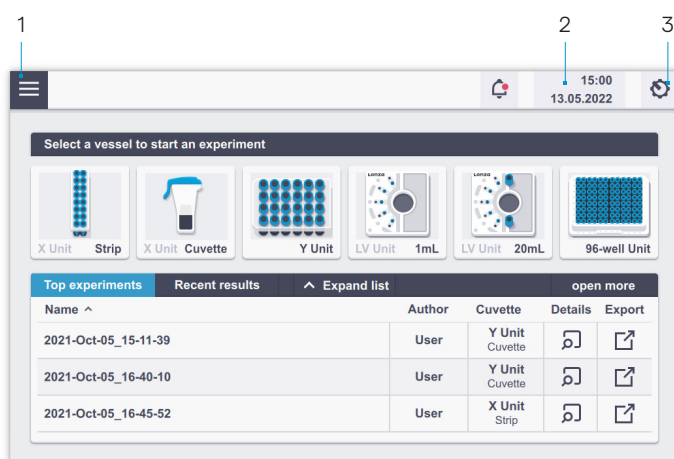

Figure 2.4: Main screen (home screen) elements and general icons.
Turn on the system using the main power switch at the rear of the Core Unit. The blue LED at the front of the Core Unit will be lit. Then press the power button at the front of the Core Unit. The system will boot — this process may take a few moments. Once the start-up procedure is complete, the 4D-Nucleofector® Graphical User Interface (touch screen) will display the software's main screen. The main screen (home screen, Figure 2.4) displays all vessel types that can be used with the respective functional units that
The 4D-Nucleofector® System is operated via an 8-inch touch screen display and is controlled by intuitive software. Figure 2.4 and Table 2.2 will familiarize you with the functions of the touch fields and the basic features of the operating software.
3. You can load predefined experiments by tapping on the accordion menu (Figure 2.4 (1)) and select "Experiments". Tapping on "Open" will show you the Experimental set up screen.